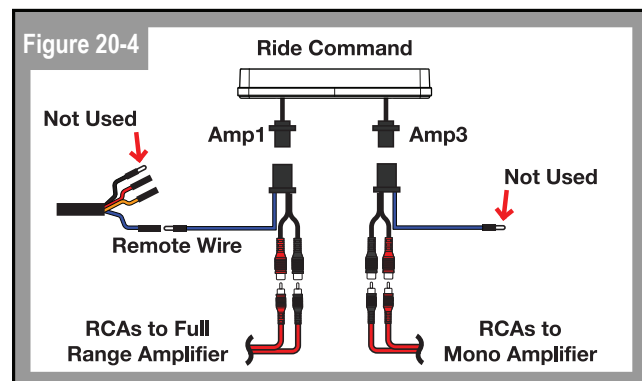

Figure 20-4
Route and connect AMP1 blue wire (remote amp turn on) from the adapter to the blue wire in audio system's four-wire source unit harness. Only the blue wire connects. The three remaining wires are not used in a Ride Command application. See Figure 20-4.
Route and connect the RCA audio cables from the AMP3 adapter to the NA2-400.1 mono subwoofer amplifier. See Figure 20-4.
Route and connect the RCA audio cables from the AMP1 adapter to the NA2-400.2RC two-channel full range amplifier. See Figure 20-4.
Carefully place the amplifier plate into position as shown in Figure 20-4. Be sure the wiring harness and connectors are all intact and nothing has come unplugged.
- **if you have the Dynamix® ECU and/or OEM amplifier bracket** - Tighten the remaining two (2) 10mm bolts to securely mount the dual amp plate. This is shown in Figure 20-4.
- **If NO Dynamix® ECU or OEM amplifier bracket** - Secure the dual amplifier plate. Simply substitute the (2) 10mm screws in Figure 20-4 and use the two (2) T40 screws provided with the MB Quart Stage 5 kit to securely mount the dual amp plate